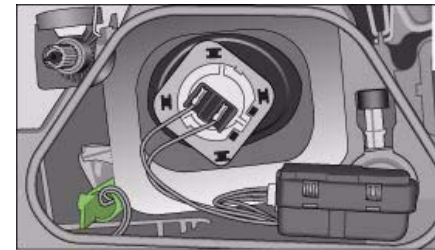

Fig. 268 Bulb holder for side lights is highlighted
- Grasp the bulb holder by the handle ⇒ fig. 268 and pull it out.